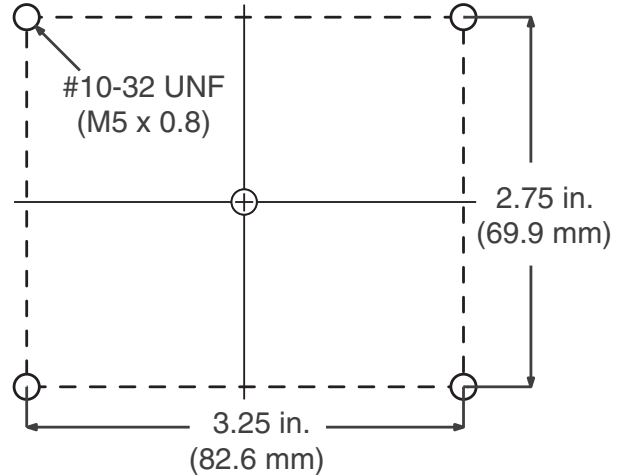

Fig. 33: CGM Mounting Holes
4. Drill the mounting holes using the mounting hole dimensions shown in Fig. 33.